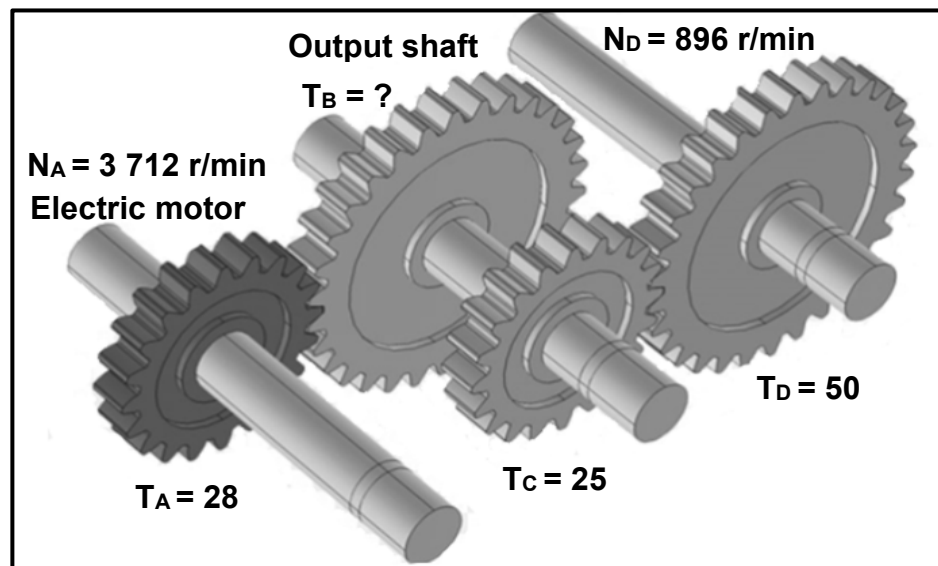

FIGURE 11.5
- 11.5 FIGURE 11.5 below shows a gear drive system on the shaft of an electric motor.